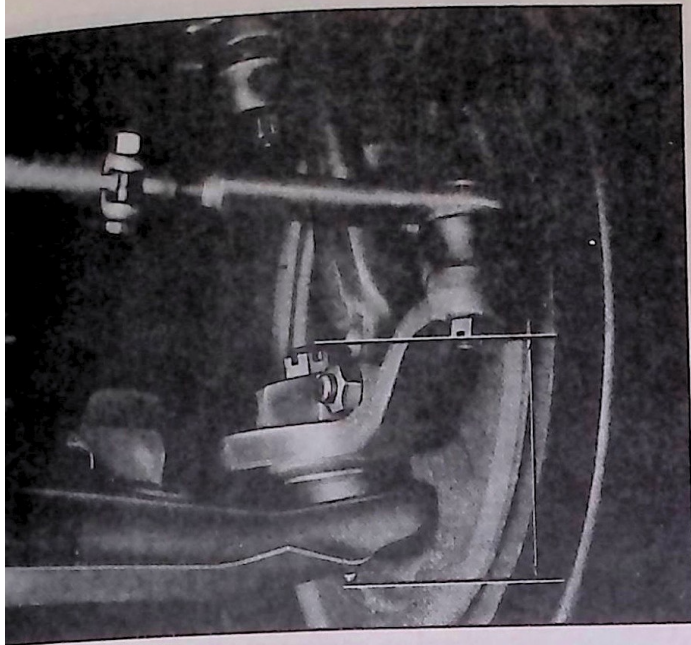

Fig. 11—Checking Lower Ball Joint (Typical)
2. Measure distance between tip of ball stud and tip of grease fitting below ball joint (fig. 11).